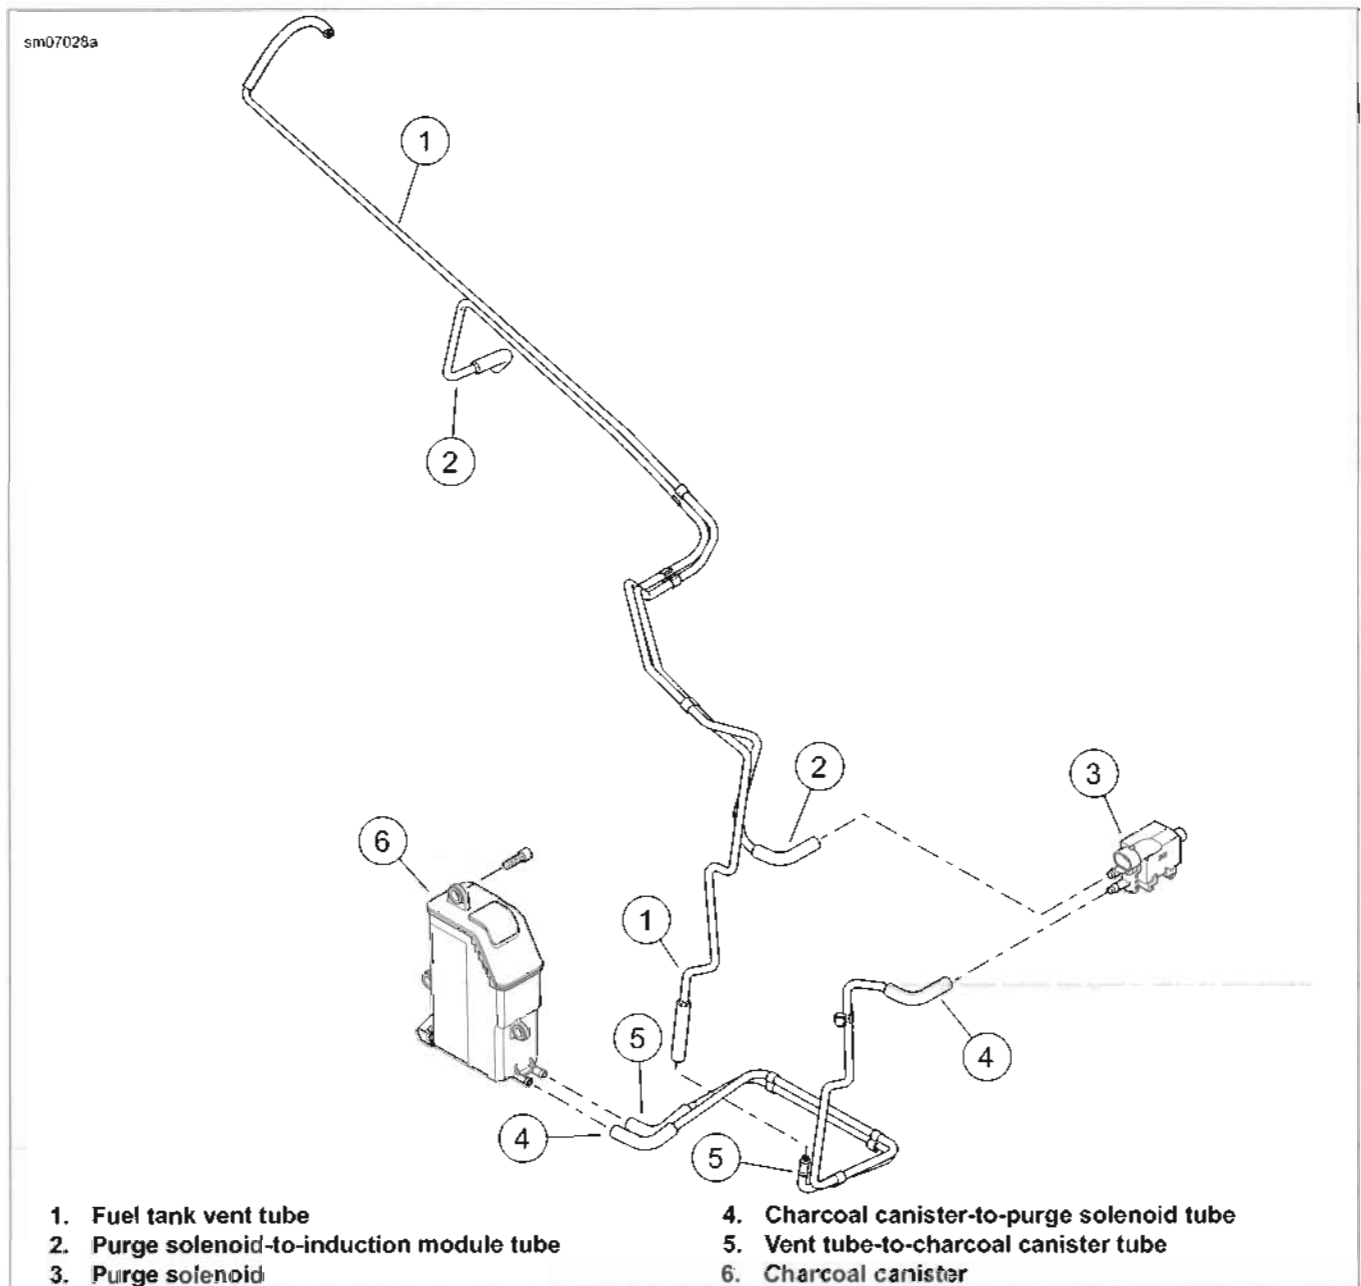

Figure 4-53. Evaporative Emissions Control System
Motorcycles sold in some markets are equipped with an evaporative (EVAP) emissions control system. See Figure 4-53. The EVAP system functions as follows:
2. See Figure 4-53. Note the two hose connections on the canister. After hoses are marked, gently pull hoses off the canister.
2. See Figure 4-53. Attach hoses to charcoal canister.
4. See Figure 4-53. Disconnect electrical connector from purge solenoid (3).
1. See Figure 4-53. Attach purge solenoid (3) to top of rear electrical panel.
3. Connect electrical connector to purge solenoid (3).
- a. See Figure 4-53. If replacing fuel tank vent tube (1), add hose to end of vent tube.
- b. Route fuel tank vent tube (1) along right side of frame. Cross over to the left side just before the battery. Continue past the battery and then down between the wire harness and frame crossmember. The end of the vent tube should end just below the left side of the rear electrical panel.
- d. If equipped with a charcoal canister (6), connect the fuel tank vent tube, at the rear electrical panel, to the vent tube-to-charcoal canister tube (5).
- a. See Figure 4-53. Route purge solenoid-to-induction module tube (2) along right side of frame. Cross over to the left side just before the battery. Continue past the battery and then down between the wire harness and frame crossmember. The end of the vent tube will attach to the upper nipple on the purge solenoid (3).
2. See Figure 4-53. Route charcoal canister-to-purge solenoid tube (4) from the bottom nipple on the purge solenoid down between the shocks and over to the charcoal canister.
2. See Figure 4-53. Route vent tube-to-charcoal canister tube (5) from vent tube (1) on left side of rear electrical panel down between the shocks and over to the charcoal canister.